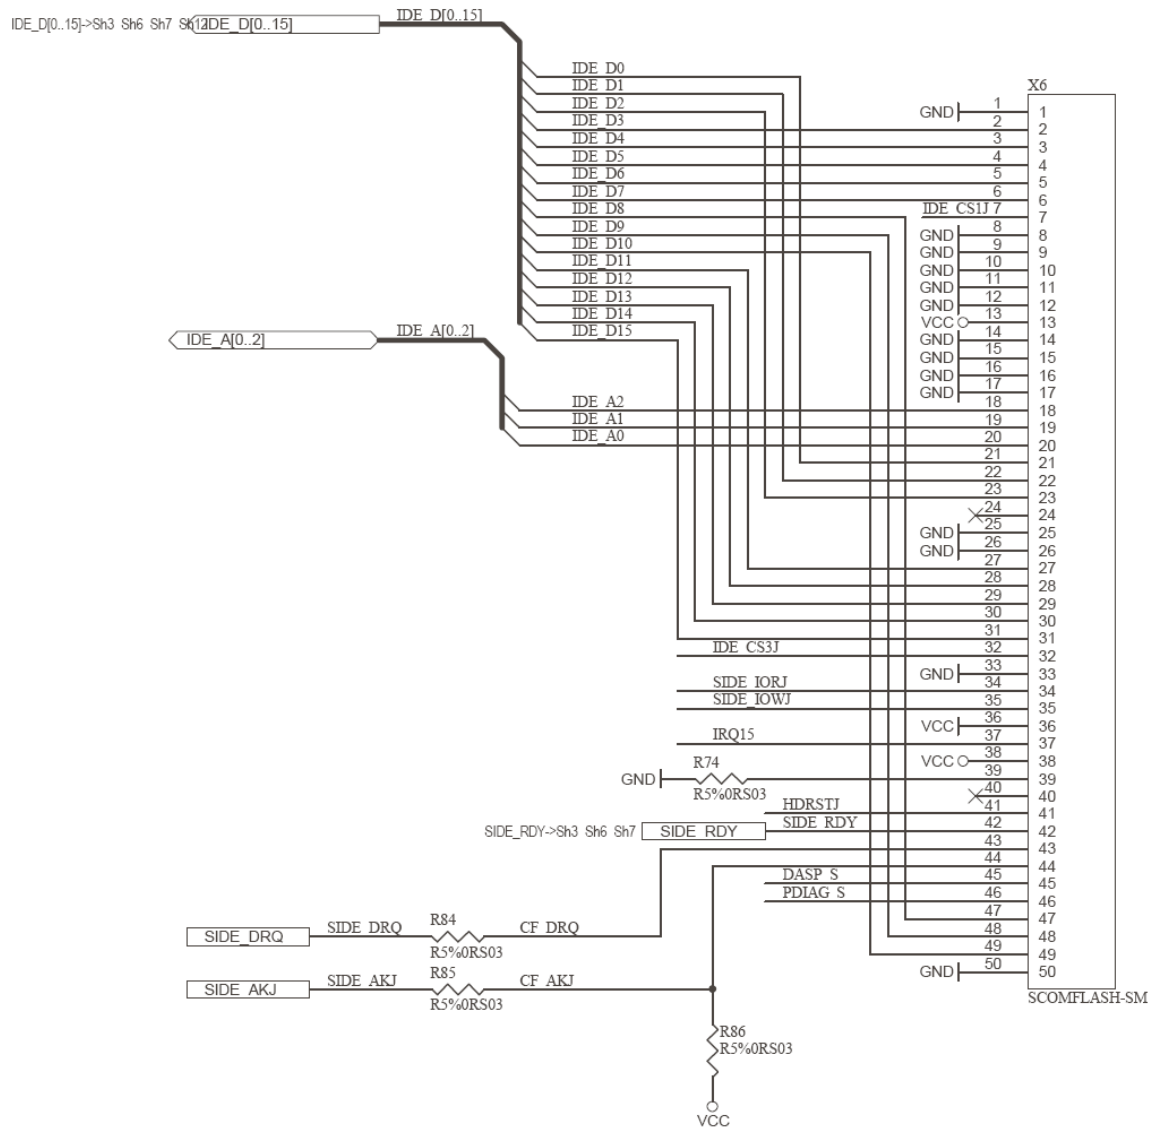

Figure 18 – CompactFlash Socket
Figure 18 shows CompactFlash (CF) socket wired as a secondary master IDE device. CompactFlash cards are used as alternatives to mechanical hard drives, especially when only moderate data capacity is needed. A CF card in IDE mode has the same electrical interface as an IDE hard drive, so it may be wired to an ETX IDE port in the same way.